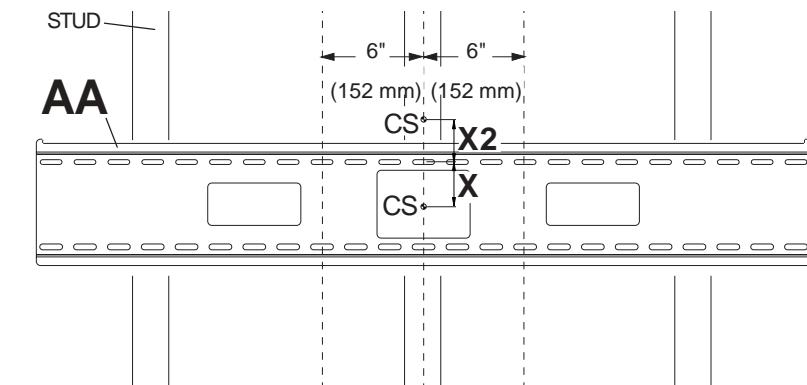
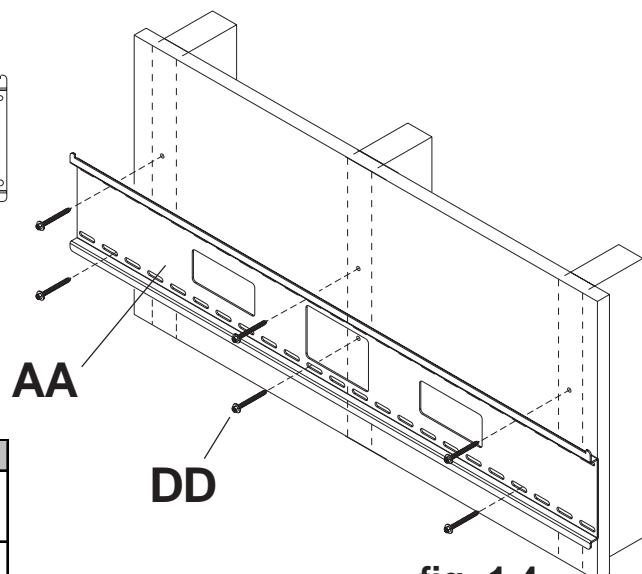

fig. 1.3
fig. 1.4
**1** Wall plate (AA) can be mounted to three studs that are 16" apart. Use a stud finder to locate the edges of the studs. Use of an edge-to-edge stud finder is highly recommended. Based on their edges, draw a vertical line down each stud's center. Place wall plate on wall as a template. The top mounting slots should be located above the desired screen center as indicated by dimension X in figure 1.3 and chart below. Level plate, and mark the center of the six mounting holes. Make sure that the mounting holes are on the stud centerlines. Drill six 5/32" (4 mm) dia. holes 2-1/2" (65 mm) deep. Make sure that the wall plate is level, secure it using six #14 x 2.5" wood screws (DD) as shown in figure 1.4.
**Note:** When mounting equipment weighing greater than 200 lbs, triple stud mounting is strongly recommended. If mounting to two studs on 16" centers, leave an open stud in center. Wall plate may be mounted up to 6" (152 mm) off-center as shown in figure 1.3.